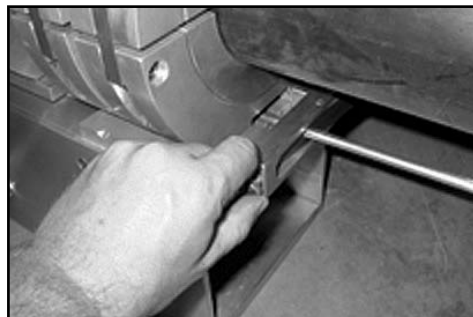

Figure 5.
5. Continue pressure until complete roll back of melt bead is obtained on both sides of the pipe. Engage pipe lock to hold pressure on jointed pipes. (Figure 5) Maintain this pressure for the recommended cooling times as outlined by the pipe manufacturer.